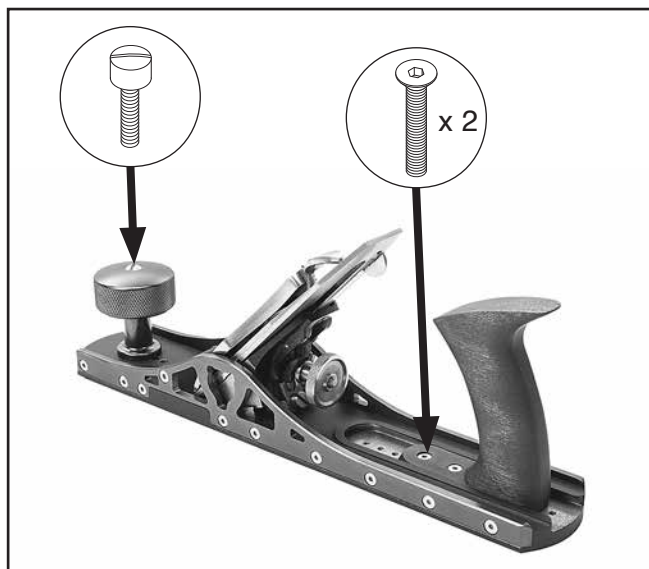

Figure 10. Hand placement components.
1. Remove (2) flat head cap screws on base of tote (see **Figure 10**).
3. Remove screw securing knob (see **Figure 10**), and apply thread locking compound to threads.